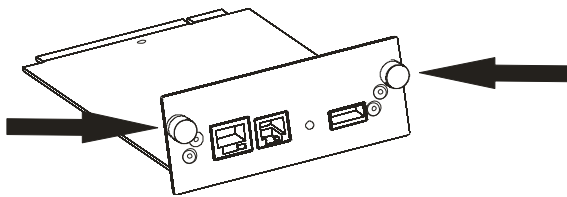

Figure 62 Position of the thumbscrews
3. Loosen the two captive thumbscrews on the Library controller (see Figure 62).
4. Pull straight back on the power supply to remove it from the library (see Figure 62).